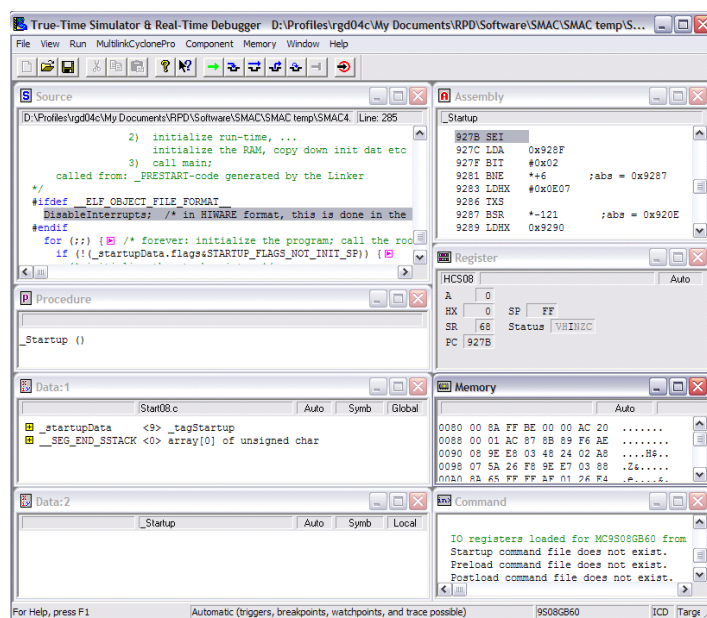

Figure 40. Debugger Application Window
- After the code is downloaded to the target, the system is running in Debugger Mode and the Debugger application window appears as shown in Figure 40.